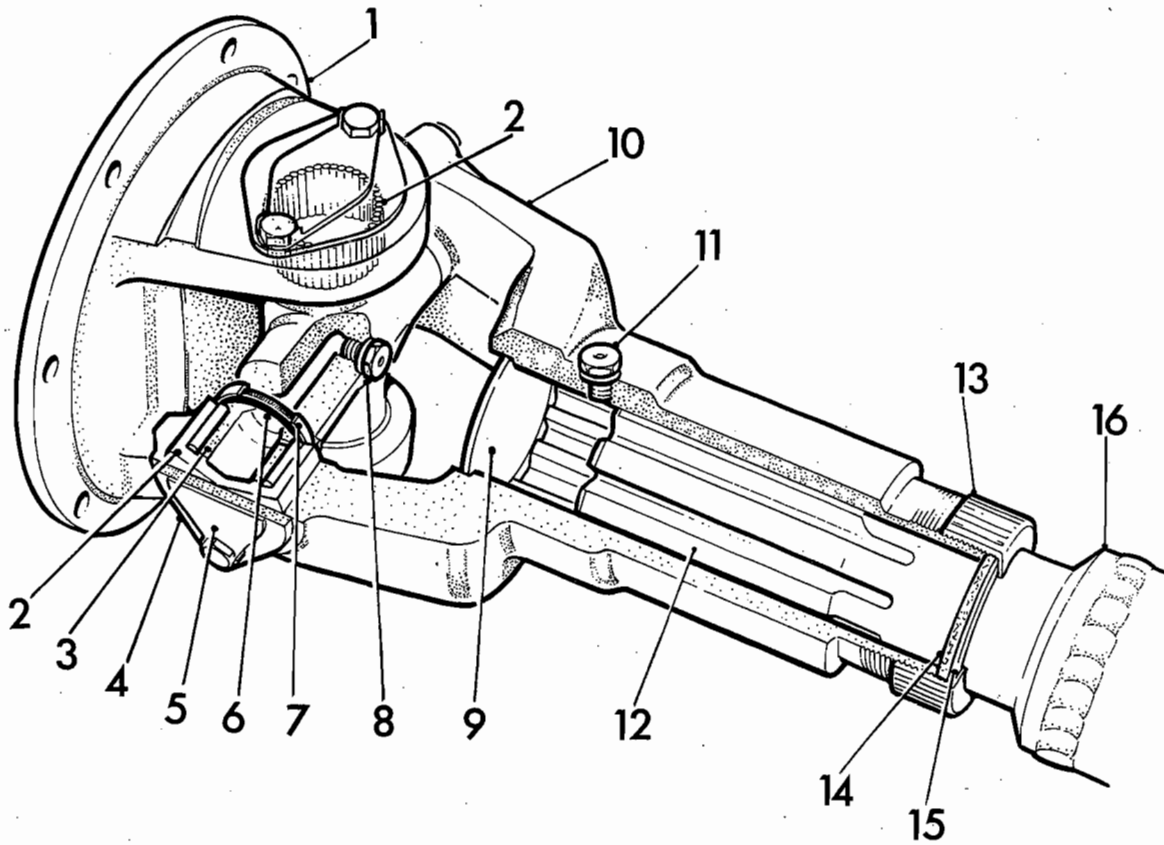

FIG. 2 SECTION THROUGH TYPICAL UNIVERSAL JOINT
TO REMOVE AND REFIT (Figs. 2 and 3)
3. Lubricate needle roller bearings (2) Figs. 2 and 3, until grease emerges from all four seals.
Key to Figs. 2 and 3